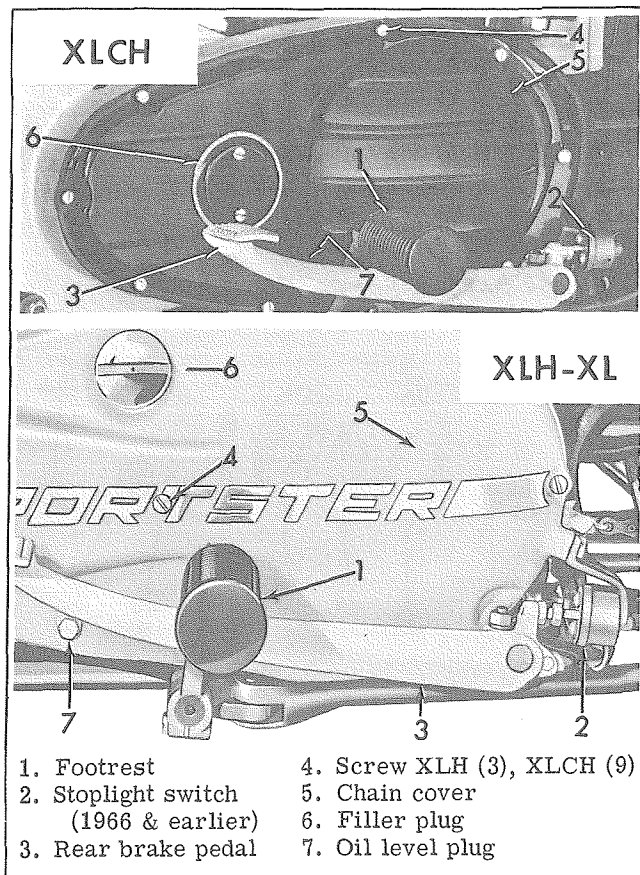

Figure 4B-7. Removing Front Chain Cover
Sportster Model XLCH has a steel chain cover secured with 9 screws. See Fig. 4B-7.
(Fig. 4B-6)
When installing new cable, lubricate cable with grease as it is being inserted in coil (hand lever end). Correctly position upper cable end in hand lever anchor pin. When reassembling cable ferrule in hand lever anchor pin with side slot, be sure slot is toward inside as shown. Earlier type pin with slotted end should have open end facing downward. Insert felt seal retainer (14) and felt seal (16) on lower cable end. Insert cable end (3) on cable, 7-11/16 in. from lower ferrule as shown in Fig. 4B-6. Cut cable off at end (3). Spread cable strands in cable end and countersunk hole and flow a hard solder in hole to securely join together. Engage cable end with fingers of lever. Install sprocket cover (2) with bolts (1). Install footrest, exhaust pipe and muffler and starter crank. Adjust clutch release mechanism as described under "Adjusting Clutch Release Mechanism."